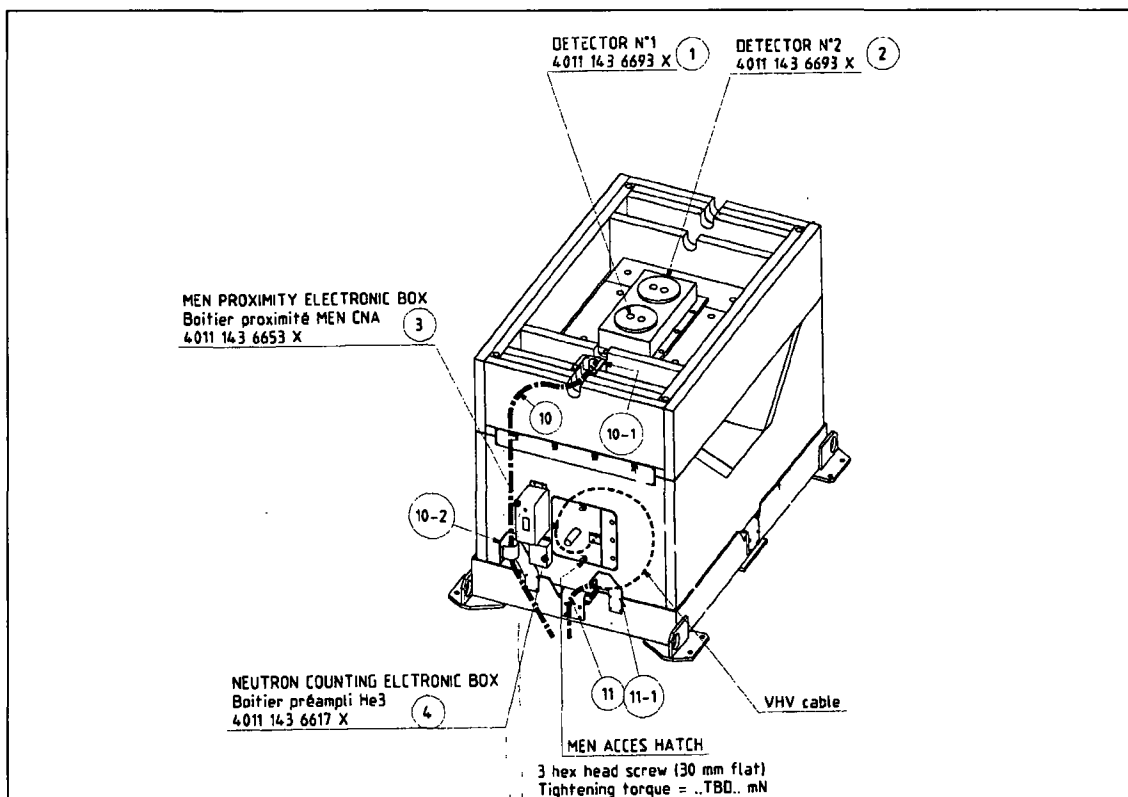
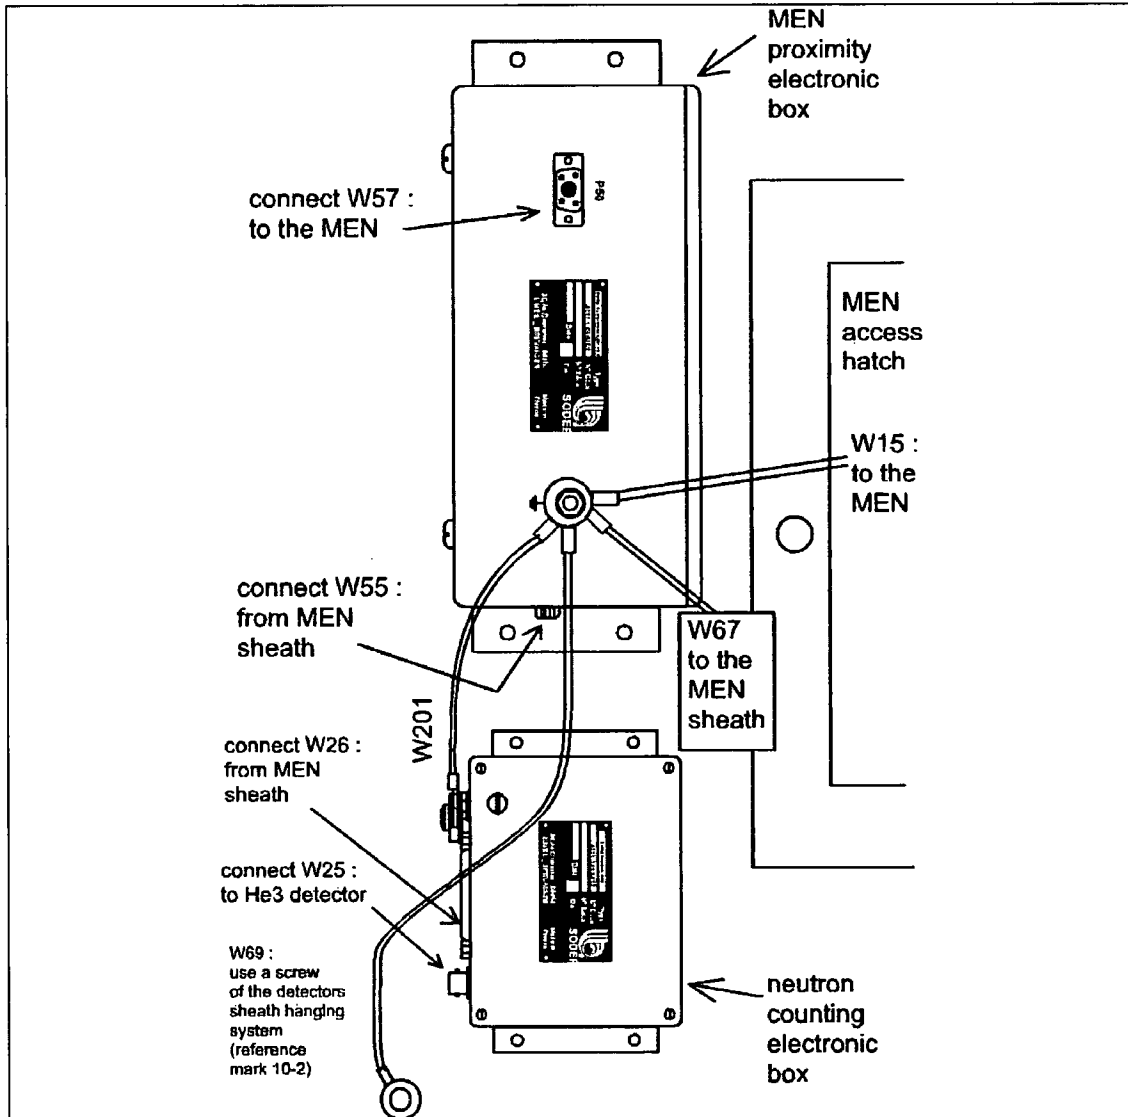

Figure 43 - Measurement Chamber, Electrical Installation
Figure 44 - Measurement Chamber, Electronics Boxes
- ☐ Install the neutron counting electronic box (see Figure 43, reference mark 4 and Figure 44). This box and the screws are delivered in the « kit of accessories » box.
- ☐ Install the MEN proximity electronic box (Figure 43, reference mark 3 and Figure 44). This box and the screws are delivered in the « kit of accessories » box.
- ☐ Install the two hanging systems for cables (Figure 43, reference mark 10-2 and 11-1). These systems and the screws are delivered in the « kit of accessories » box.
- ☐ Pass the detectors' sheath (Figure 43, reference mark 10) through the first hanging system (Figure 43, reference mark 10-2) and fix it to the second hanging system (Figure 43, reference mark 10-1).
- ☐ Fix the MEN sheath (Figure 43, reference mark 11) to its hanging system (Figure 43, reference mark 11-1).
- ☐ Connect the earth on the MEN proximity-electronic box : W67 from the MEN sheath, W69 to the mechanical structure and W201 to the neutron-counting electronic box (Figure 44). W201 and W69 are delivered in the « kit of accessories » box. See details .
- ☐ Connect all the cables (Figure 44) .
- ☐ Connect W25 to connector P25 of the neutron-counting electronic box (Figure 43 reference mark 4).
- ☐ Connect W26 to connector P28 of the neutron-counting electronic box (Figure 43 reference mark 4).
- ☐ Connect W55 to connector P47 of the MEN proximity electronic box (Figure 43 reference mark 3)
- ☐ Connect W57 to P50 of the MEN proximity-electronic box (see Figure 44).